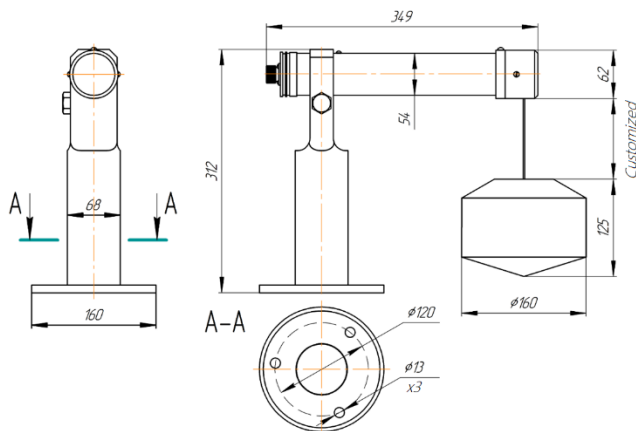
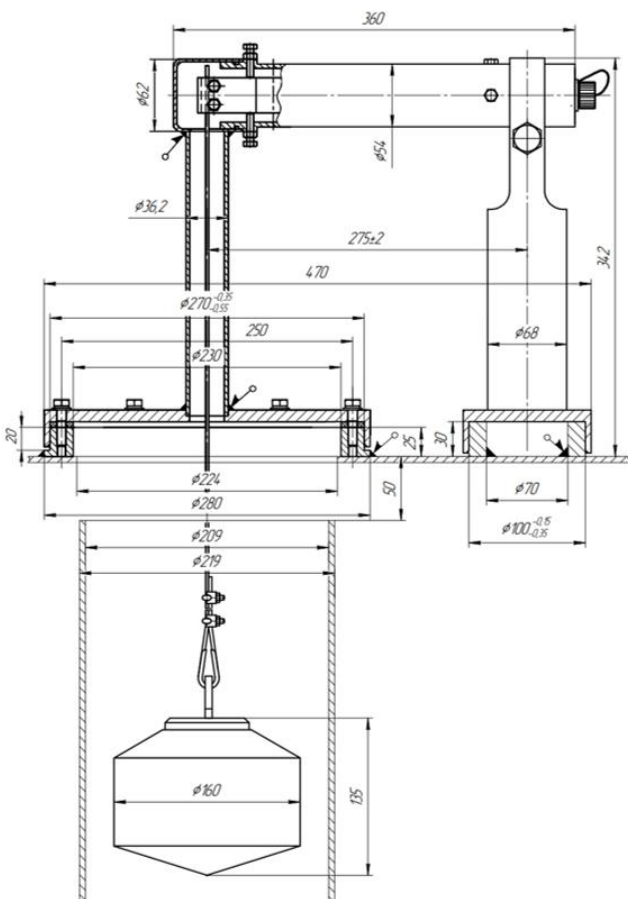

Figure 1. The DN-130(P) overall dimensions
Figure 2. The DN-130(P) overall dimensions in enclosed configuration
- Basic dimensions at the processing facilities correspond to the dimensions of the DN-130(P) (see Fig. 1 and Fig. 2);